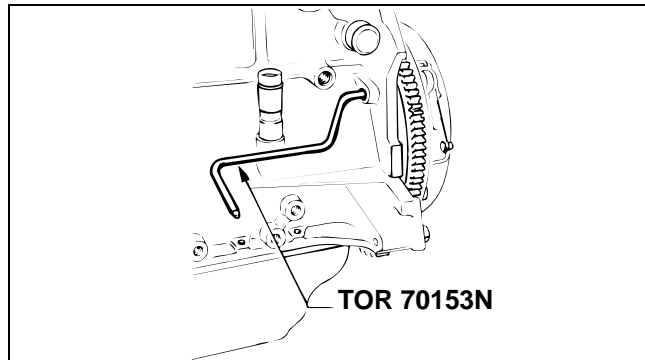

Figure 52
2. Slowly turn the crankshaft in the operating direction (clockwise as viewed from the timing belt end) until the TDC Lock Pin tool (TOR 70153N) goes into the hole in the flywheel (Fig. 52).